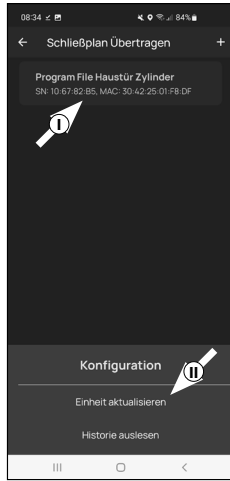

Fig. 5
- ⑥ Tap on the programming file you have just created (I) (Fig. 5) and tap on "Update unit" (II) in the menu that appears (Fig. 5).